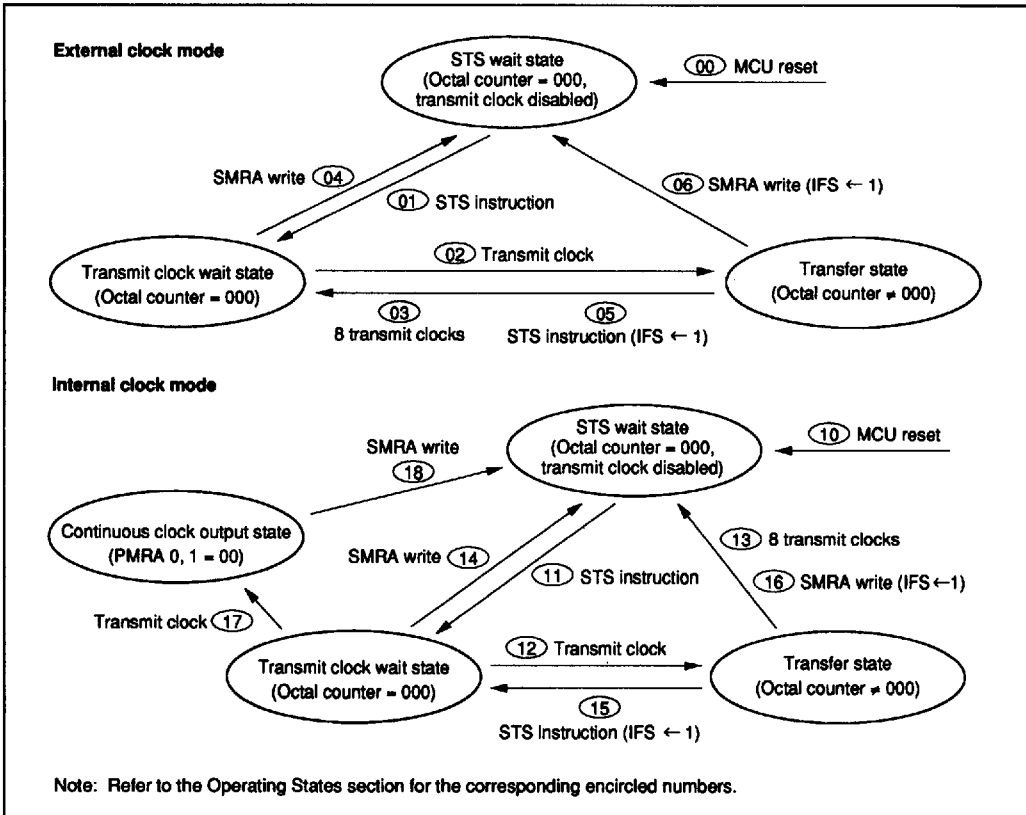

Figure 71 Serial Interface State Transitions
Operating States: The serial interface has the following operating states; transitions between them are shown in figure 71.
- STS wait state: The serial interface enters STS wait state by MCU reset (00, 10 in figure 71). In STS wait state, the serial interface is initialized and the transmit clock is ignored. If the STS instruction is then executed (01, 11), the serial interface enters transmit clock wait state.
- Transmit clock wait state: Transmit clock wait state is between the STS execution and the falling edge of the first transmit clock. In transmit clock wait state, input of the transmit clock (02, 12) increments the octal counter, shifts the serial data register, and enters the serial interface in transfer state. However, note that if continuous clock output mode is selected in internal clock mode, the serial interface does not enter transfer state but enters continuous clock output state (17).